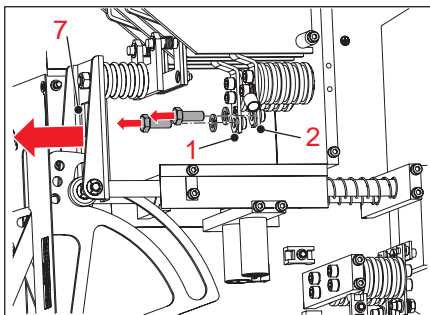

Figure 14
4. Push the moveable drive unit (7) 4. with the main contact bridge against the detent force to the front, see **Figure 14**.
5. Release hexagon head bolts M8 of the coach-side cable contacts on the main contacts ZS (1) and WA (2) and slide off bolts, serrated lock rings and cable (**Figure 14**).
10. Connect the coach-side cables to the main contacts ZS (1) and WA (2) with the hexagon head bolts M 8 and serrated lock rings, see **Figure 14**.